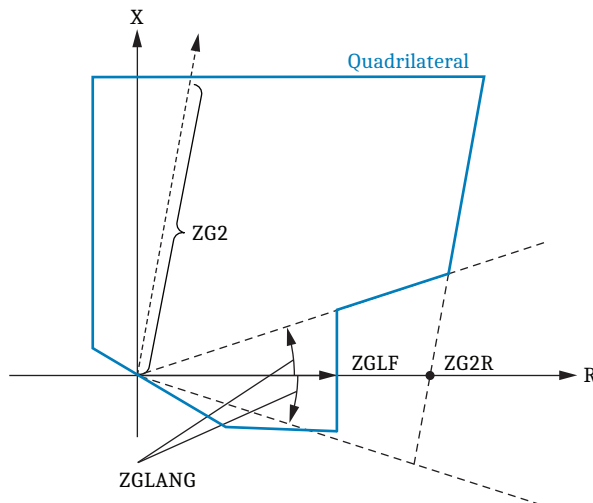

Figure 25 Effect of Load-Encroachment Blocking on Distance Characteristics (Quadrilateral Elements Shown)
- The logic includes a load-encroachment blocking setting for the distance elements (see *Figure 25*). You can decide on a per-zone basis which distance zones you want blocked under the load-encroachment condition. Use SELOGIC equations and torque-control inputs to supervise the overcurrent elements for heavy load conditions.